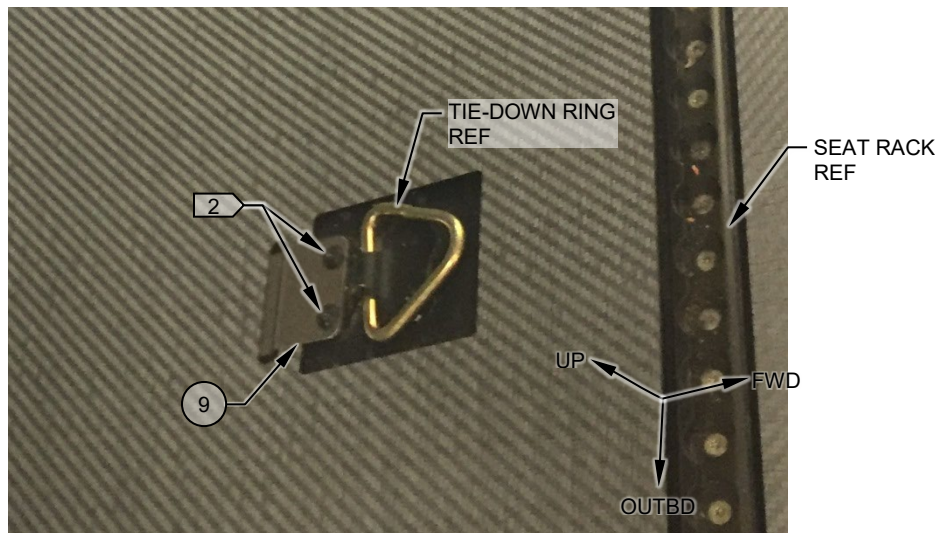

**Figure 13**
9. Remove the AFT two screws from the RHS FWD most triangular tie-down ring in the cargo area and install the Retainer, Assemblies (Item 9) re-using the OEM fasteners. Reference Figure 13 and 14.